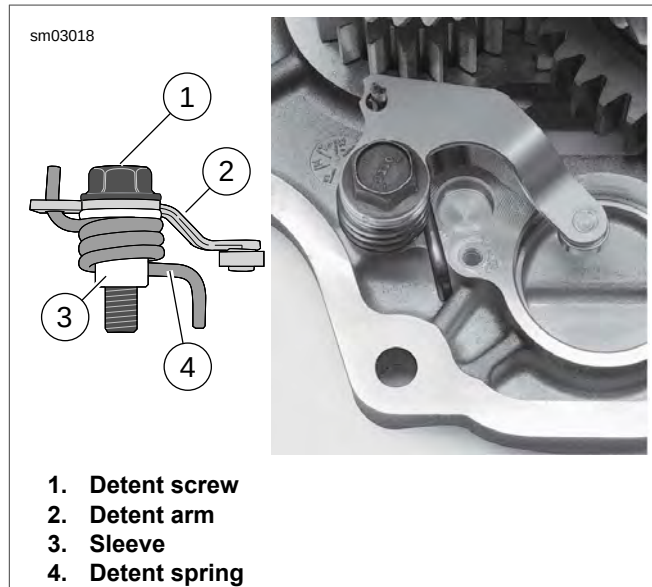

Figure 6-28. Detent Assembly
- a. See Figure 6-28. Clean detent screw mounting hole in transmission bearing housing.